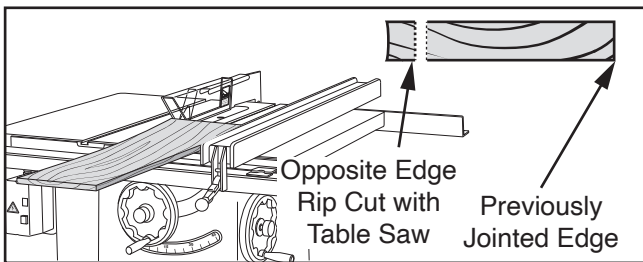

Figure 44. Rip cutting on table saw.
2. Place jointed edge of 2x4 against table saw fence and rip cut just enough off opposite side to square up two edges of 2x4, as shown in **Figure 44**.